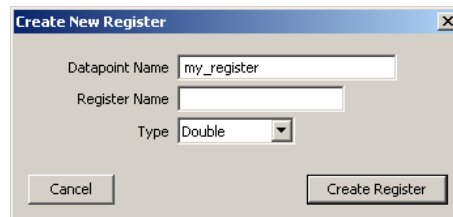

Figure 111: Create a user register.
2. Right-click in the data point list and select **New Datapoint...** in the context menu. This opens the register creation dialog as shown in Figure 111.